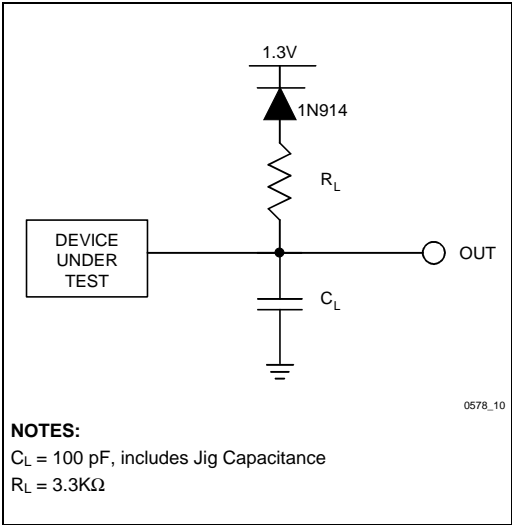

Figure 11. Standard Test Configuration
4. See Standard Test Configuration (Figure 11).